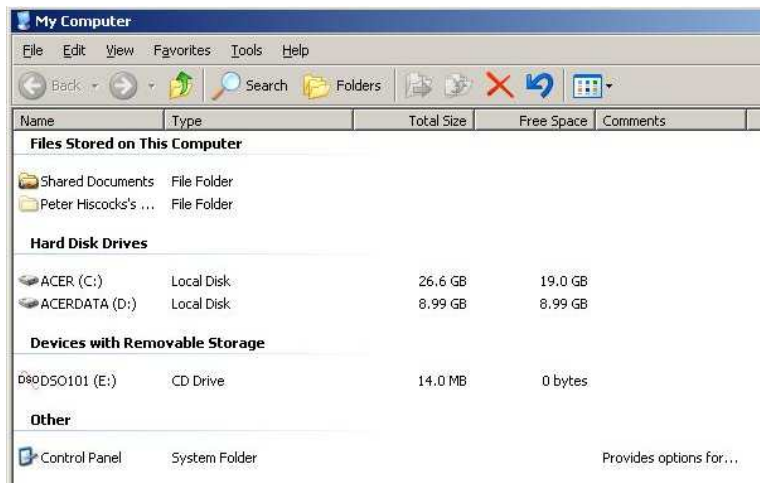

Figure 20: My Computer
1. Double click on **My Computer** to obtain a screen like figure 20.